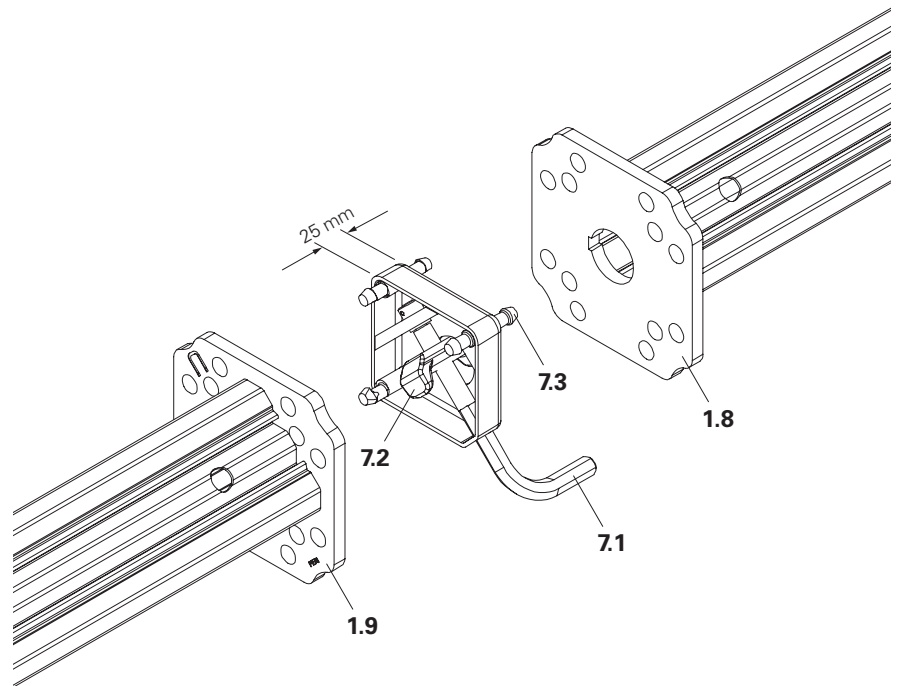

Fig. A2.01
2. Place the second MULTIPROP MP (1) on the centring pins of the Connector-2 MP MV (7).
- (Fig. A2.01)
- The MULTIPROPS MP (1) are connected.